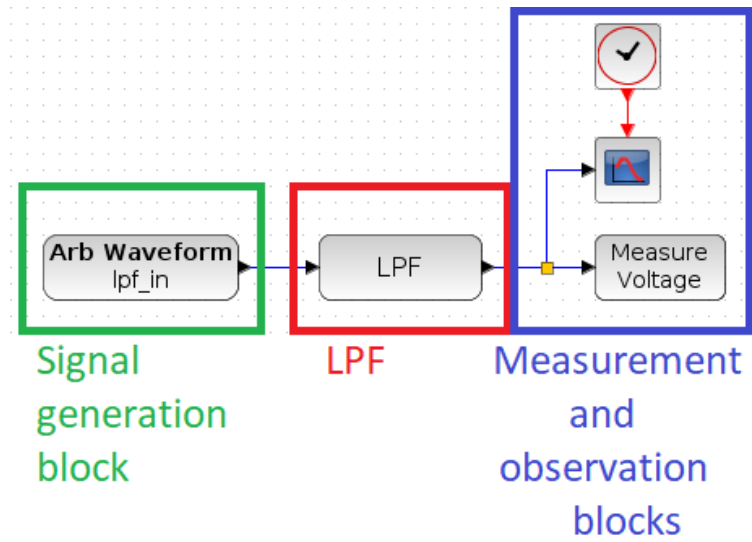

Figure 10: On-chip low-pass filter
4. In your new design, create your circuit with the FPAA blocks of the library. An example of what type of circuit you should obtain is shown on figure 10. The first block allows you to create your signal. The second block of the low-pass filter. The last blocks allow you to measure your output signal and to display it. The *Measure Voltage* block measures the output signal. The blue block will display the signal and the *Clock* block allows you to choose at which frequency you want to display the output value (since the signal is numeric, you have to synchronize the clock frequency with the sampling frequency of the signal).